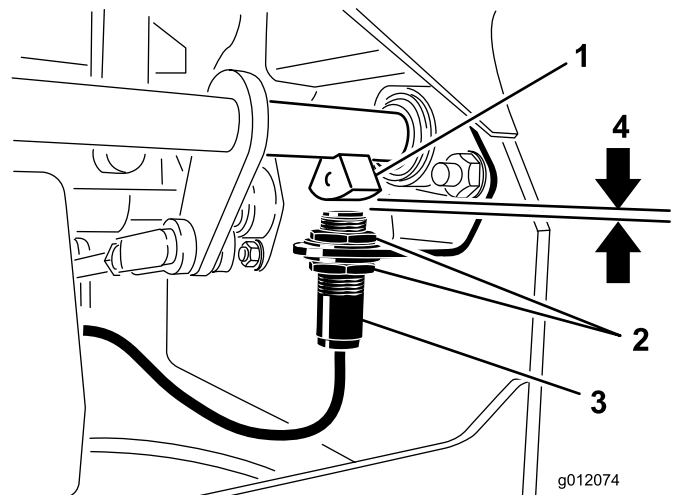

Figure 67
4. Move the switch up or down on the bracket until the distance between the brake-shaft sensor and the switch plunger is 4 mm (5/32 inch) as shown in Figure 67.